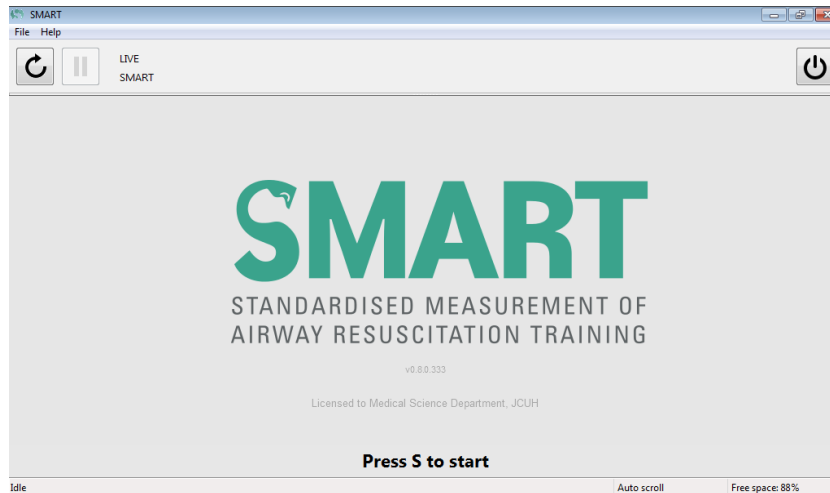

Figure 2: SMART welcome page
- Double click on the SMART software icon and the welcome page will load (Figure 2)